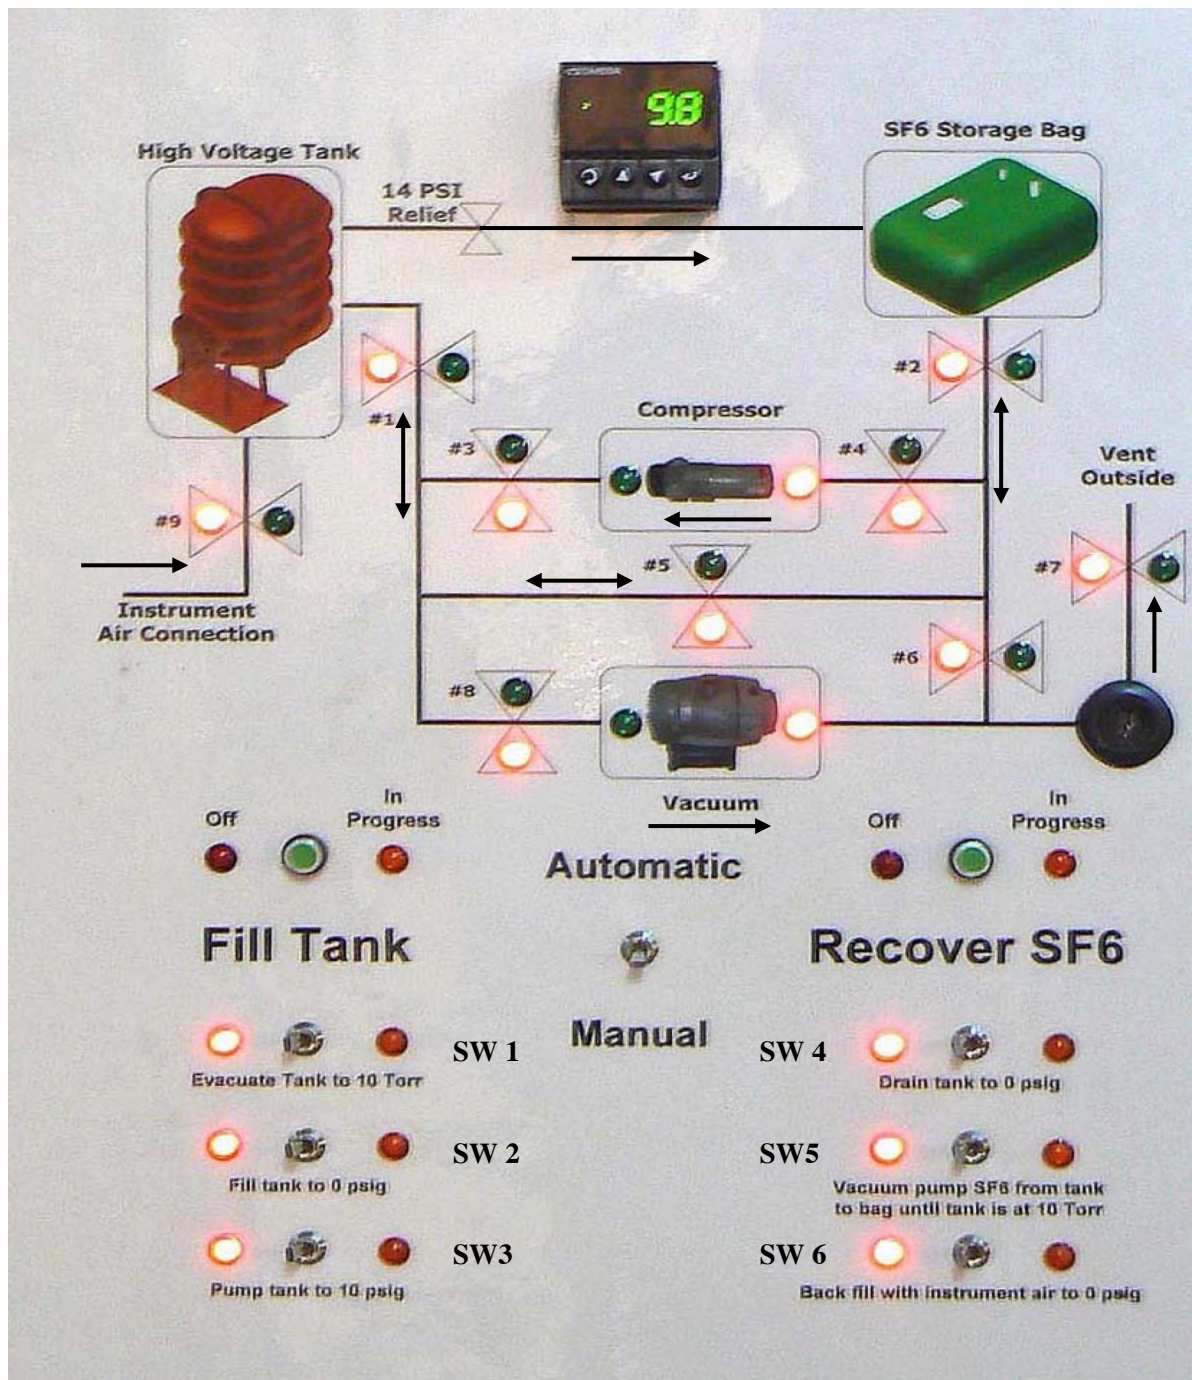

Figure 1 SF₆ Control Panel
3. Ensure all valves are closed. On the following page, see Figure 1, SF₆ Control Panel.